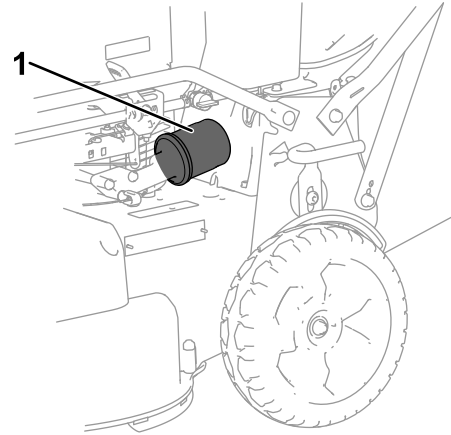

Figure 27
6. Remove the oil filter (Figure 27).